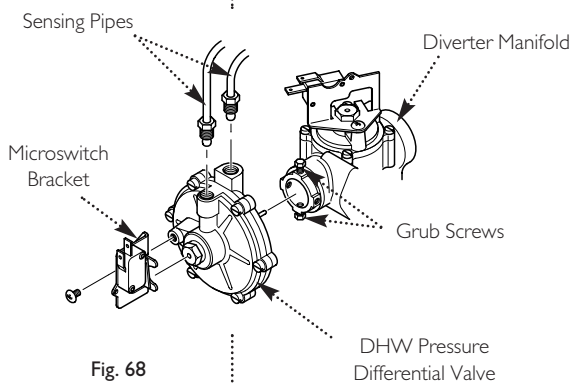

Fig. 68
### 12.22 Diverter Valve Assembly (Figs. 68 & 69)
2. Undo the screw securing the microswitch bracket to the valve (Fig. 68).